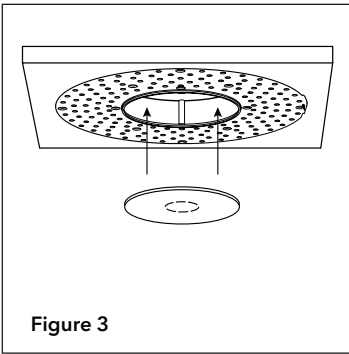

Figure 3
3. Install mounting ring in ceiling, using screws included (Fig. 3).
3. Insert protective plug into mud ring (Fig. 3)